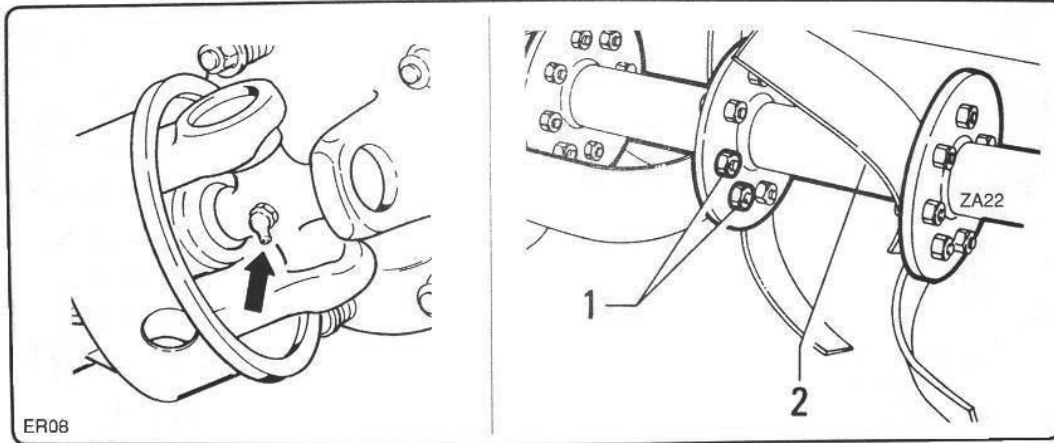

fig. 7.4.2
- Make sure that the driveline is in a perfect condition and grease the spiders (fig. 7.4.2).
- Check that the bolts "1" that lock the blades to rotor "2" (fig. 7.4.2) are well tightened.